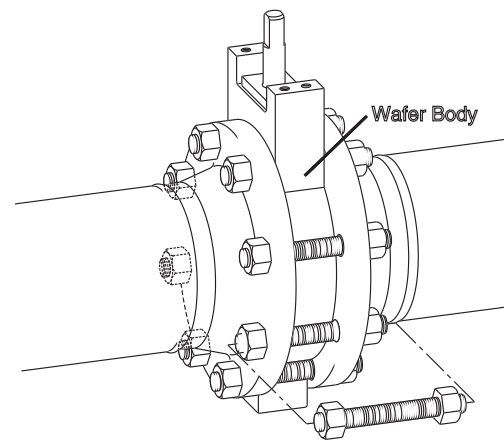

Figure 11
5. Tighten all bolts or cap-screws in a crossover or star pattern to insure even sealing (Figure 11 and 12).